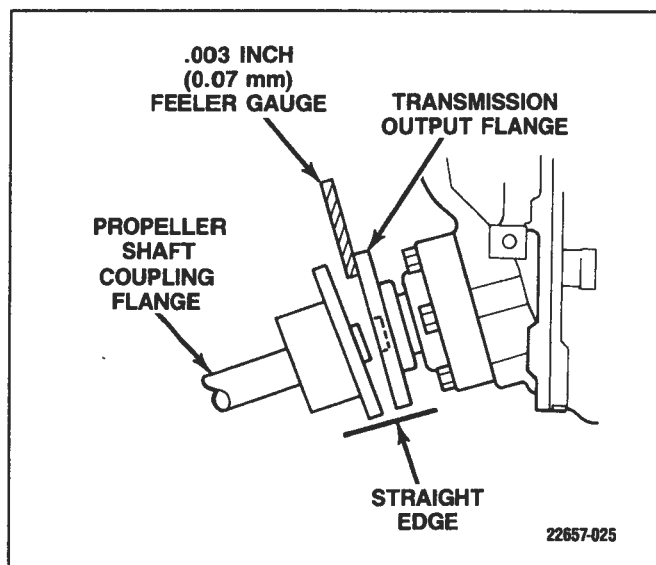

Figure 2-6. Angular Misalignment Check
4. Check for any angular misalignment. Hold the coupling faces tightly together by hand and check for a gap between the coupling faces with a 0.003 in. (0.07 mm) feeler gauge at 90° intervals (see Figure 2-6).